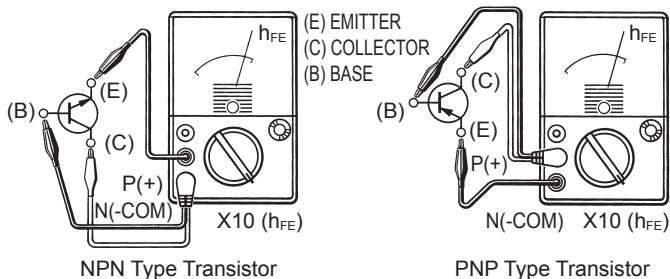

Fig. 9
As indicated in Fig. 9, connect the h_{FE} test lead (1) to the multimeter, according to the polarity of a transistor to be tested; N (-COM) terminal for the NPN type transistor or P (+) terminal for the PNP type transistor.